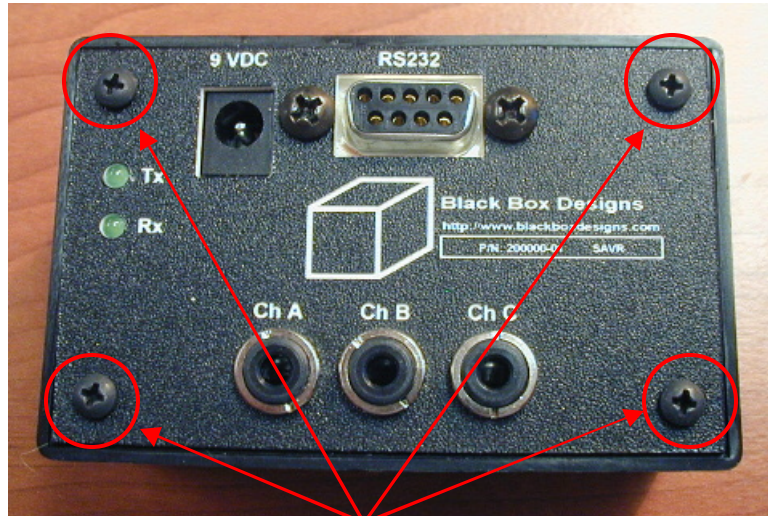

Figure 2: SAVR cover screws.
- Using a small screw driver (#1), remove the four screws securing the SAVR cover (**figure 2**).